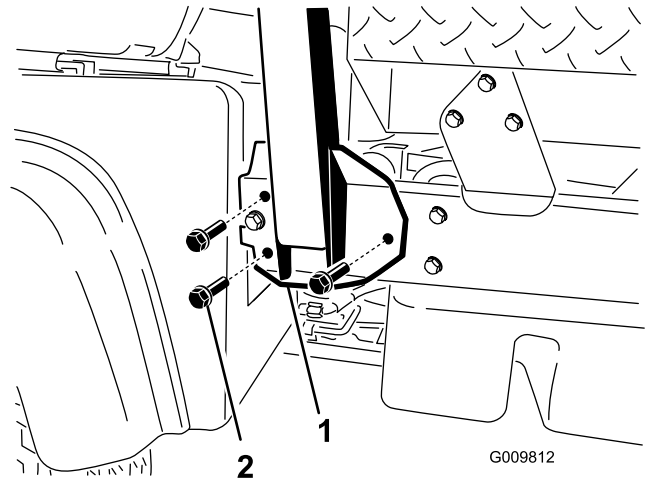

Figure 6
- Align each side of the roll bar with the mounting holes on each side of the machine frame (Figure 6).
- Secure the roll bar mounting bracket to the machine frame using 3 flange-head bolts (1/2 x 1-1/4 inches) on each side (Figure 6).